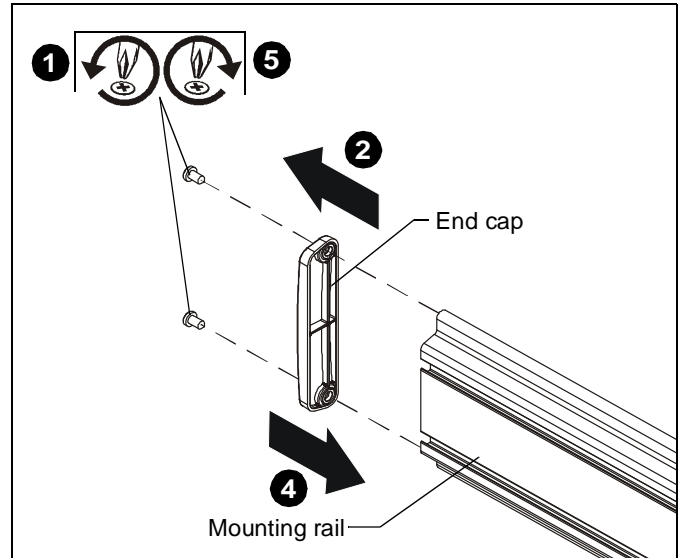

Figure 3
1. If end caps are already in place on the mounting rail, remove two Phillips screws from end cap on one end of mounting rail. (See Figure 3)
2. Remove end cap from one end of mounting rail. (See Figure 3)
4. Replace end cap on end of mounting rail. (See Figure 3)
5. Fasten with two Phillips head screws removed in Step 1. (See Figure 3)